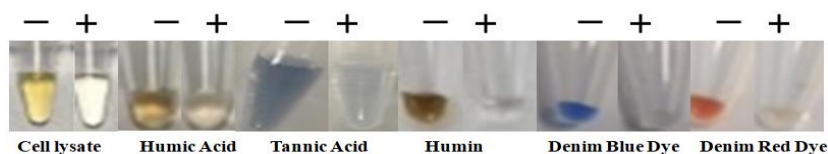

Fig.1 PCR inhibitor removal
**BcMag™ One-Step Insect DNA Purification Kit** allows rapid, column-free extraction of genomic DNA from fresh, frozen, or stored insect specimens such as mosquitoes, bees, lice, ticks, and *D. melanogaster*. The kit uses our unique proprietary magnetic beads and buffers to efficiently lyse cells and remove all impurities simultaneously in an aqueous buffer, leaving the DNA untouched. The procedure employs mild lysis conditions, avoiding harsh conditions such as alkaline lysis and toxic chemicals for lysing cells to maintain DNA integrity and the time-consuming cleanup of organic solvent from the sample. Furthermore, the magnetic beads eliminate PCR inhibitors (Fig.1) from samples in a single step without DNA extraction. It increases DNA integrity, boosts nucleic acid yields, and minimizes DNA loss caused by typical DNA purification techniques' time-consuming "bind-wash-elute" procedure. Following sample lysis, the straightforward one-step purification technique enables simultaneous processing of >96 samples and produces pure DNA in less than 30 minutes. Purified genomic DNA has the highest integrity and can be used in various downstream applications such as qPCR.